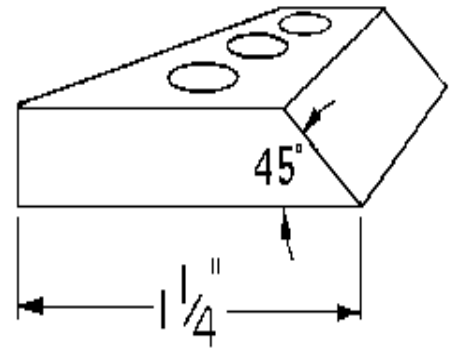

Figure 27
- Sharpen a chipper knife that is dull or that has only small minor nicks. The knife is made from tempered tool steel and is extremely hard - do not attempt to sharpen with a hand file. We recommend that you take the knife to a professional sharpening service or machine shop for proper sharpening. All grinding must be done flat and uniform along the edge. Care must be taken to maintain the same angle on the cutting edge (**Figure 27**).